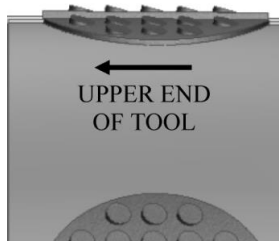

Fig. 3
K-2.6.2) Install hold down buttons (30) into hold down body (6) (Fig. 3). Align slot in hold down buttons (30) with slot in hold down body (6).